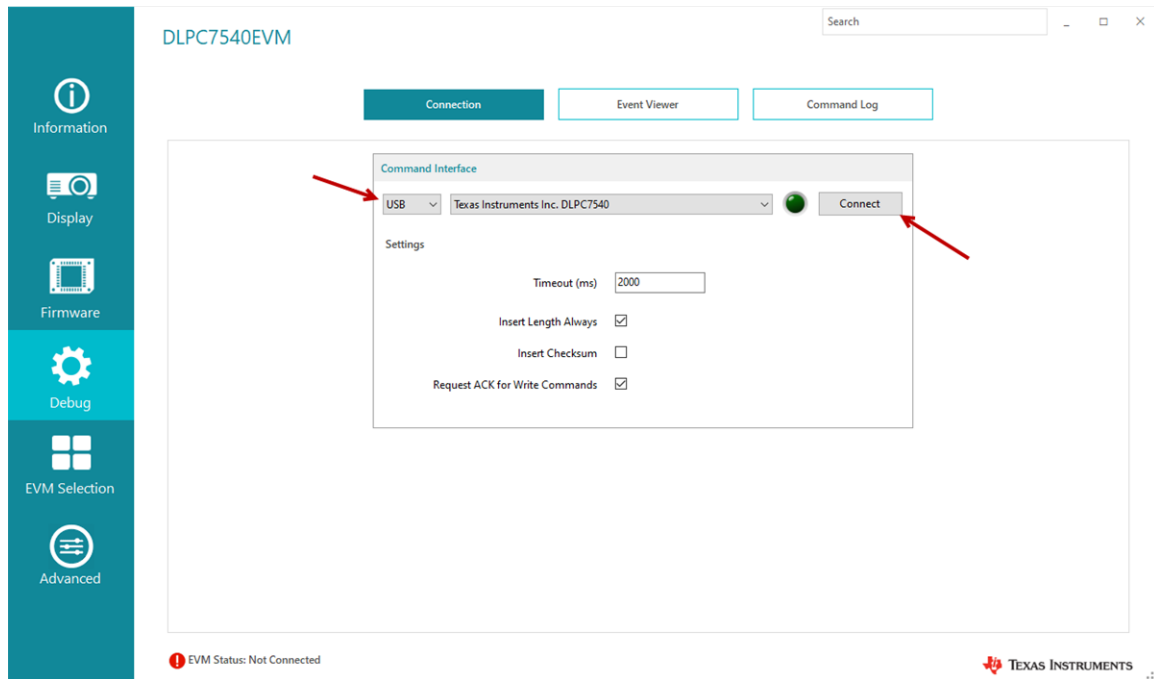

Figure 2-3. Command Interface Settings
- b. For USB, please select the USB interface and click Connect Figure 2-3. Note: USB is the preferred interface to download the firmware flash image to the EVM as it is much faster than I2C and won't require any additional hardware.